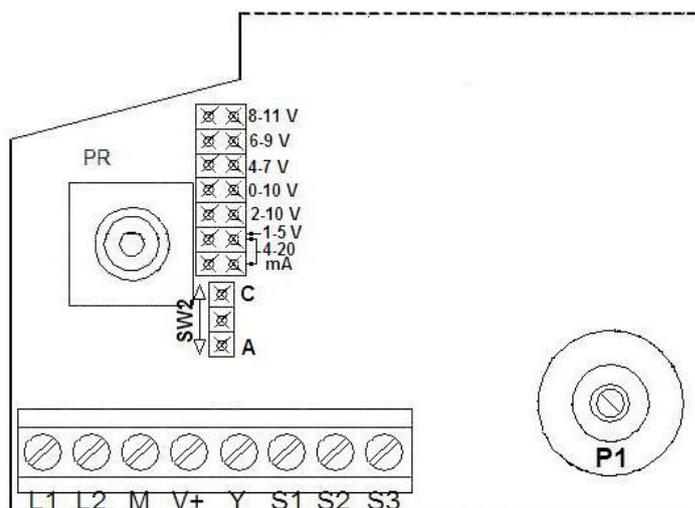

FIG. 2
The actuators are supplied with a 0...10 V- input signal and with jumper SW2 (rotation direction) on C. In order to select a different signal range, it is necessary to move the SW1 jumper from 0...10 set position to the desired one (see Fig. 2). To select the 4...20 mA field, it is necessary to insert two jumpers, also using the one preset in open position.
**The actuator rotation direction can be reversed by moving the SW2 jumper from C to A position (see Fig. 2).**
- (1) With voltage between N (Common) and Y1 (phase from controller contact): the actuator joint moves upwards. With voltage between N and Y2 the joint moves downwards. Without voltage the actuator remains in the position gained.
- (2) For MVB36: connect the controller potentiometer cursor (165  $\Omega$ ) to Y terminal, one end to M and the other to V+ terminal.
- (3) When SW2 jumper is in C position (See Fig. 2) and signal increases, the joint moves downwards.
- (4) Connect the indicator with input current to S3 (or S2) and S1 terminals. Connect the indicator with input voltage to S3 (or S2) and M terminals. The extreme voltage (current) value corresponds to joint up.